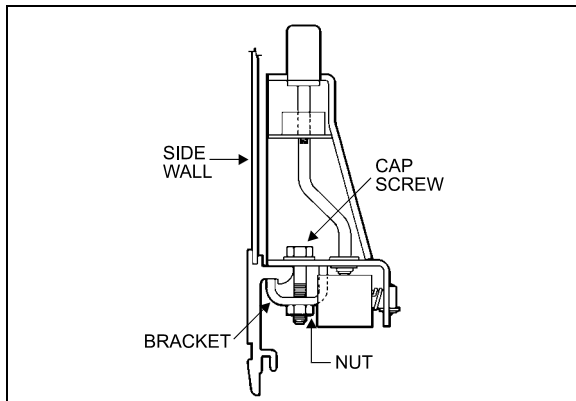

FIGURE 27: ARMREST
4. Remove 2 cap screws, nuts, and washers holding seat frame to side wall and retain the 2 holding brackets. See figures 27 and 28.